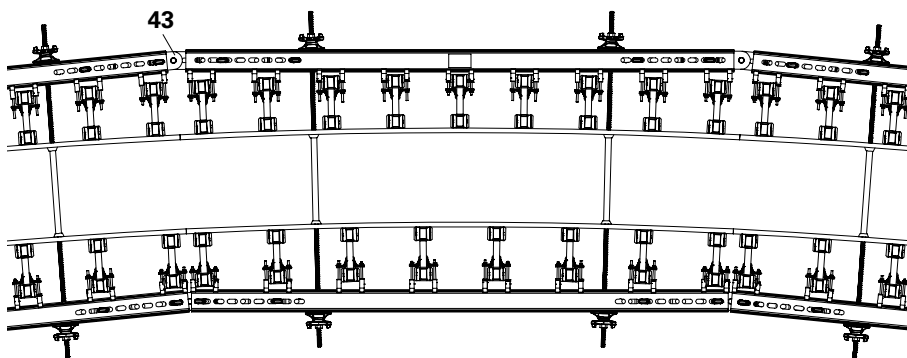

Fig. C2.03
- Casseforme poligonali circolari (Fig. C2.03)